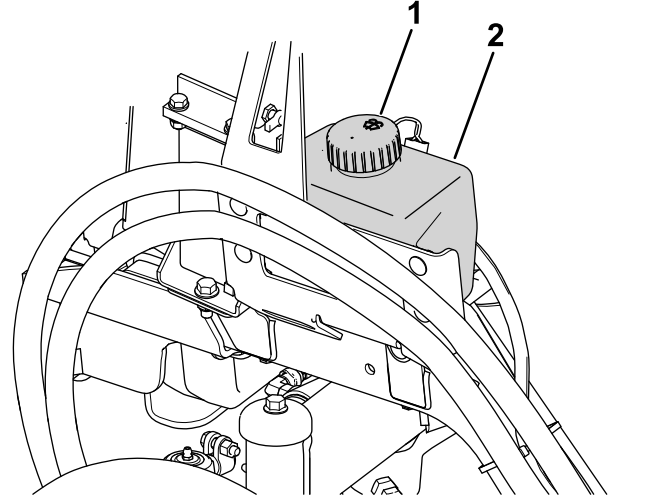

Figure 87
1. Remove the cap (Figure 87) on the reservoir.